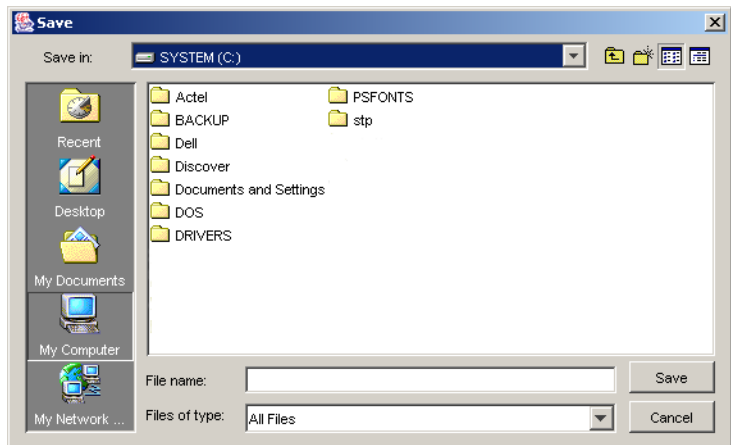

Figure 3-17. Save Dialog Box
1. **From the File menu, click *Save Log*.** The Save dialog box appears, as shown in Figure 3-17.